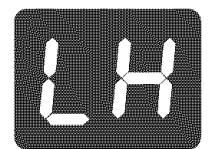

Fig.6
- Touch the  key pad located in the main control area. The associated display will show **LH** (low heat - Fig. 6) indicating that the Cooking Element is properly set to Warm & Hold. If no other key pads are pressed the control will activate the desired Cooking Element at the Warm & Hold setting.